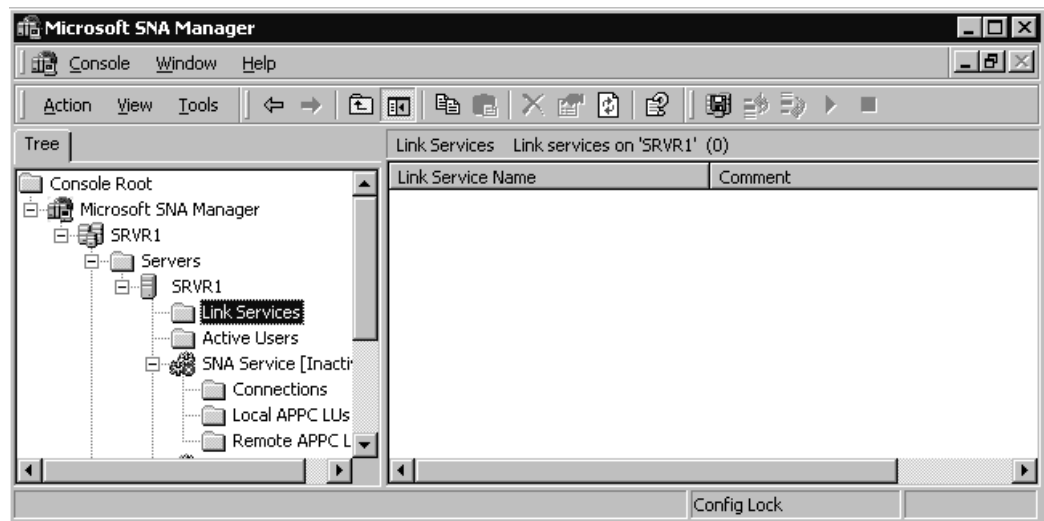

Figure 8-6. Microsoft SNA Manager
1. From the Microsoft SNA Manager main screen open the Link Services folder by clicking on it (Figure 8-6).